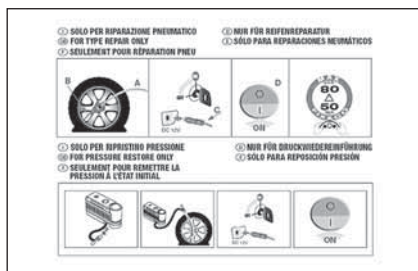

fig. 4
- ☐ instruction brochure (see **fig. 4**), to be used for prompt and proper use of the quick repair kit and to be then handed to the personnel charged with handling the treated tyre;